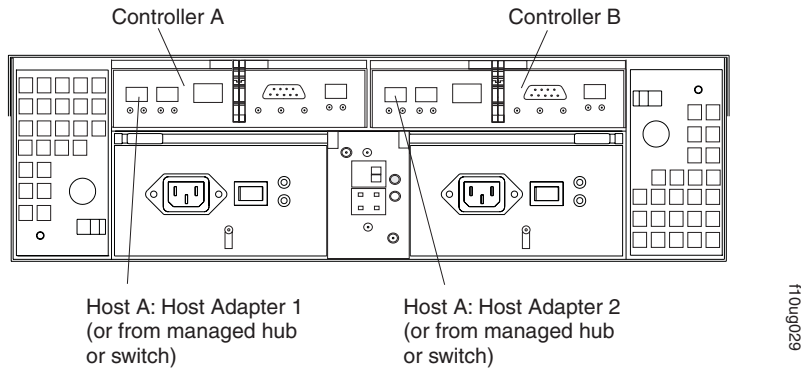

Figure 50. Location of host cables (base storage server)
2. Connect the host-system cables to the RAID controller or to switches. Figure 50 on page 56 shows the location on the RAID controllers where the host-system cables connect.